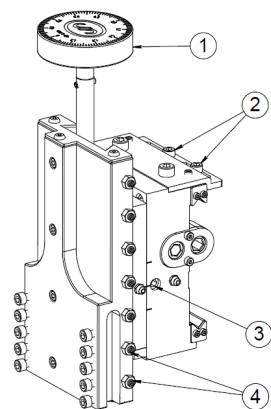

Fig. 19 Tool Post
3. Before rotating, please loosen the screw (Fig.19 ③), after rotating a certain angle, please tighten the screw.